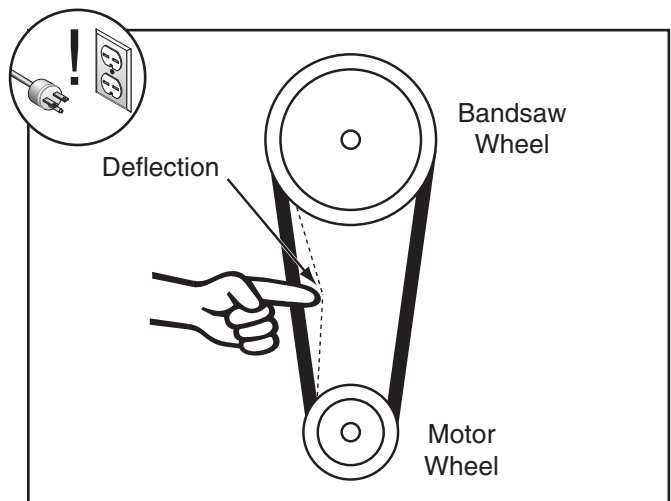

Figure 39. V-belt deflection.
6. Tension the V-belt(s) to deflect approximately $\frac{1}{2}$ " (see **Figure 39**).